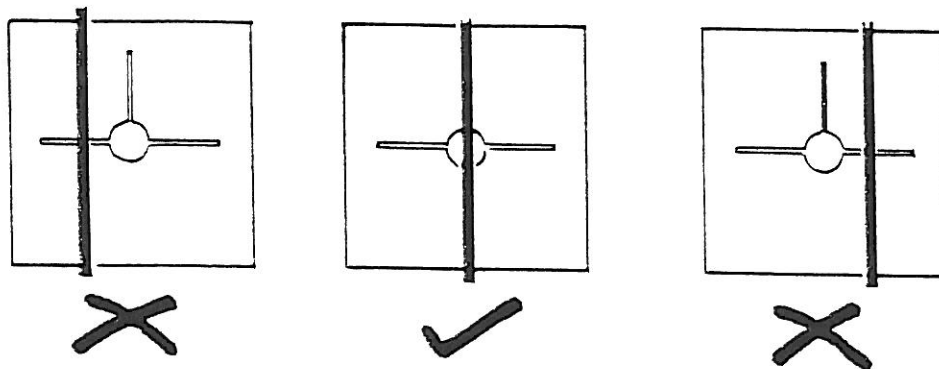

FIG. 8
2. Looking through the backsight of the Headlamp Aligner, towards the checking unit, raise or lower the Aligner so that the illuminated centre aperture and slits of the screen come into view (see Fig. 8).
3. Release the clamping knob on the underside of the Headlamp Aligner, and swing the aligner body left or right until the backsight, the foresight and the vertical slit on the screen are all in line (see Fig. 8). Retighten the clamping knob.